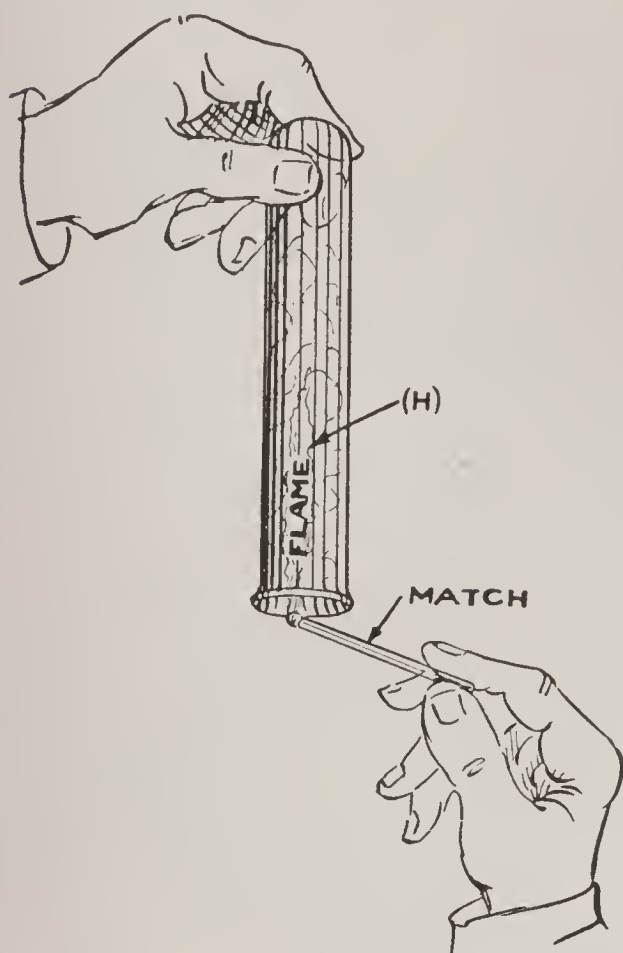

FIG. 82.—The Hydrogen Burns Gently.
How Hydrogen Acts on Flame. Take a large test tube full of hydrogen (H) and keep it inverted, as shown in Fig. 82. Now light a match and hold it to the mouth of the tube and the gas will catch fire and burn with an almost invisible flame, which will work its way into the tube and